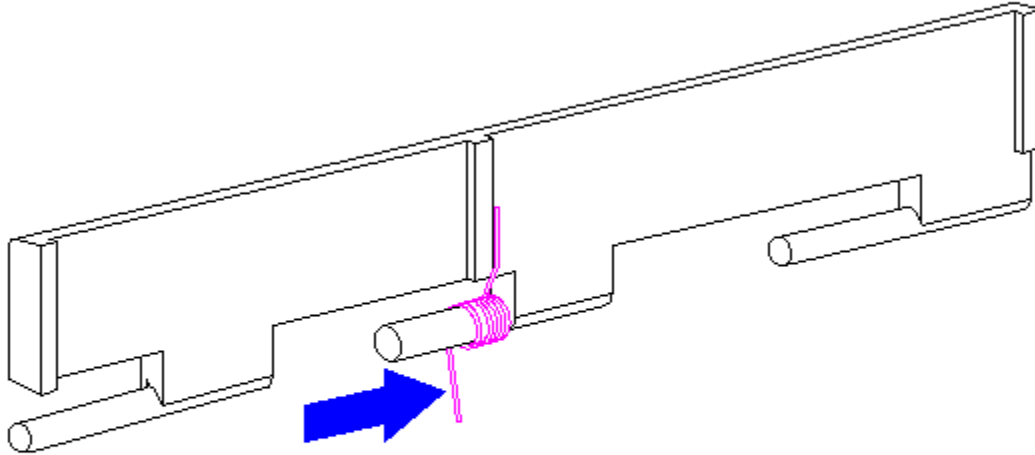

Figure 5-62. Replacing the PC Card Spring
1. Install the PC Card spring on the door post, making sure the bent arm of the spring is placed against the rib on the PC Card door (Figure 5-62).